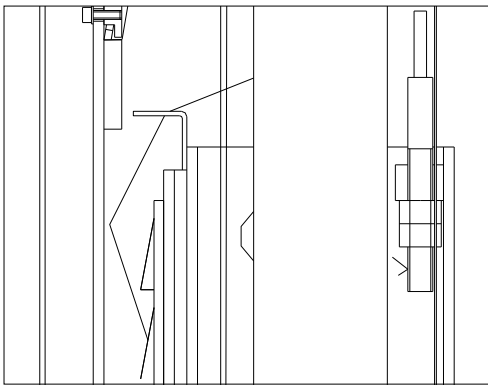

Fig. 15
- ◆ Keep both cables in balance during raising or lowering. (Fig. 15)